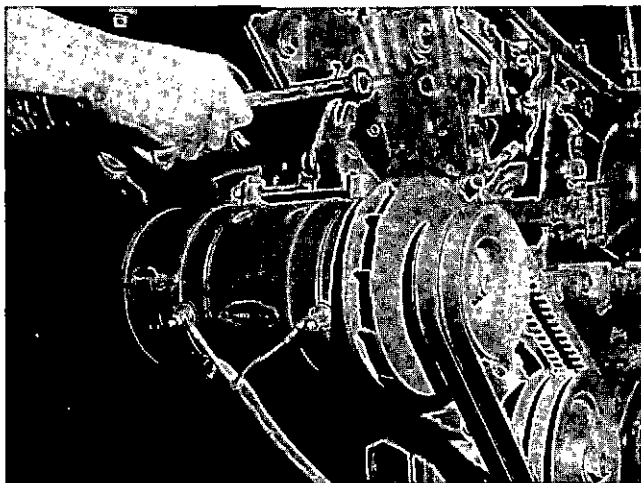

Fig. 0-5, V40037. Removing generator
1. Remove capscrew, lockwasher and flatwasher securing adjusting bar to generator/alternator, Fig. 0-5.